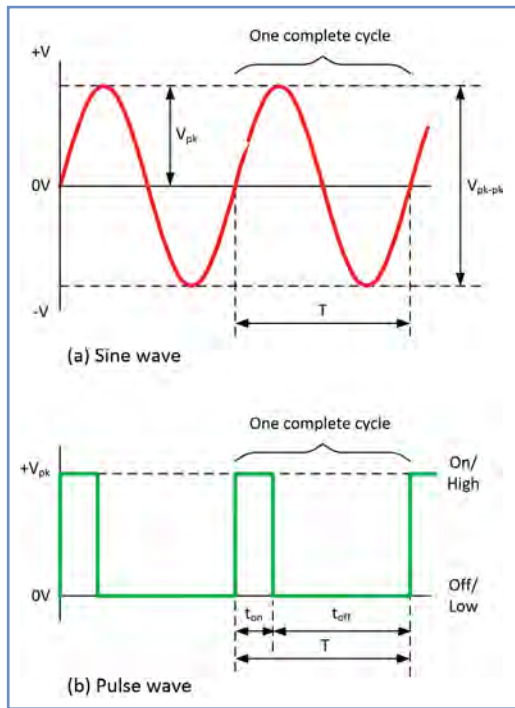

Fig.2.5. Basic parameters of sine and rectangular waves
Fig.2.5(a) shows a sine wave which comprises consecutive positive and negative half-cycles. The periodic time (T) is the time measured for one complete cycle of the waveform. The period can be measured at consecutive positive-going zero-axis crossing points, as shown in Fig.2.5(a), but it is often more convenient to measure between consecutive positive (or negative) peaks.
In the case of a symmetrical bipolar waveform like that shown in Fig.2.5(a),
the amplitude (or peak value) of the waveform is simply its maximum displacement from zero. It is often more convenient to measure the total excursion of the waveform from its negative peak to its positive peak. With a symmetrical waveform, this peak-to-peak value will be twice the peak value or twice the amplitude. With rectangular or square waveforms, we often just measure the displacement from zero (0V) to the most positive point on the waveform and refer to this as its amplitude or peak value, as shown in Fig.2.5(b).